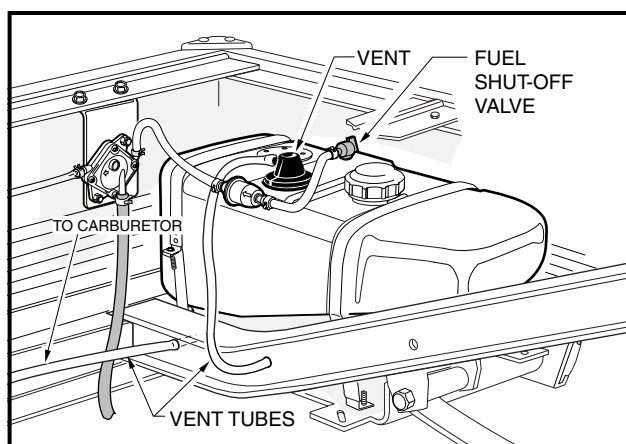

Figure 16 Fuel Tank
- If the vehicle has an all-weather enclosure installed, be sure the fuel tank is properly vented as shown (Figure 16).